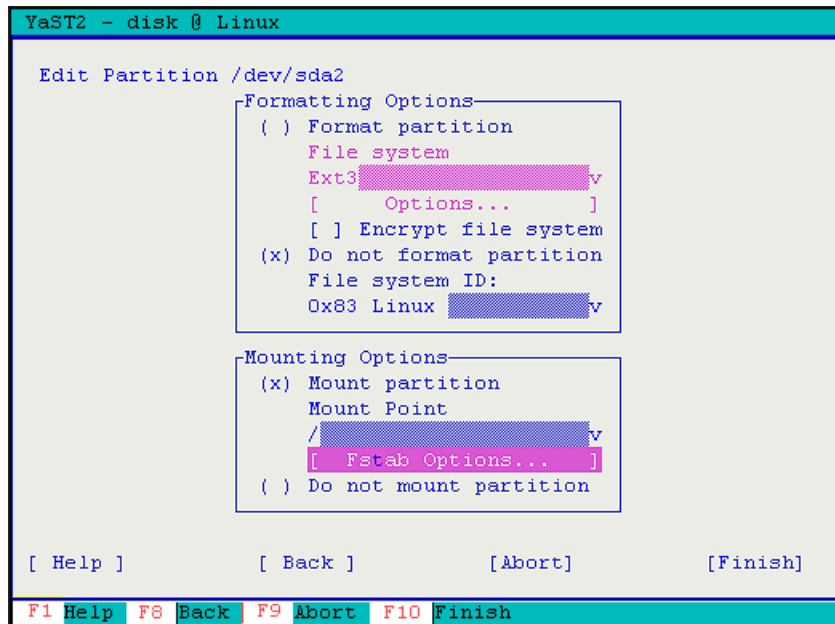

Figure 20-4 Select Fstab Options
- c. Select Fstab Options and press Enter as shown in Figure 20-4 on page 591.